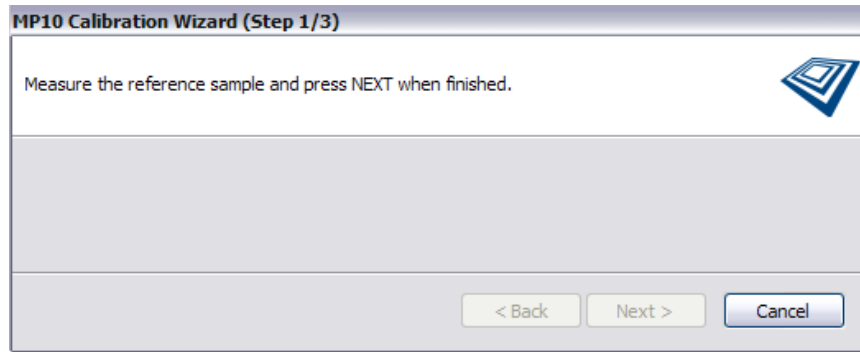

Figure 3.5 MP10 Calibration Wizard
1. To calibrate the grating, click the small arrow to the right of the Grating information area on the information bar. Select **Calibrate...** to open a calibration wizard as shown in **Figure 3.5**. This is a 3-step wizard for MP10 calibration.